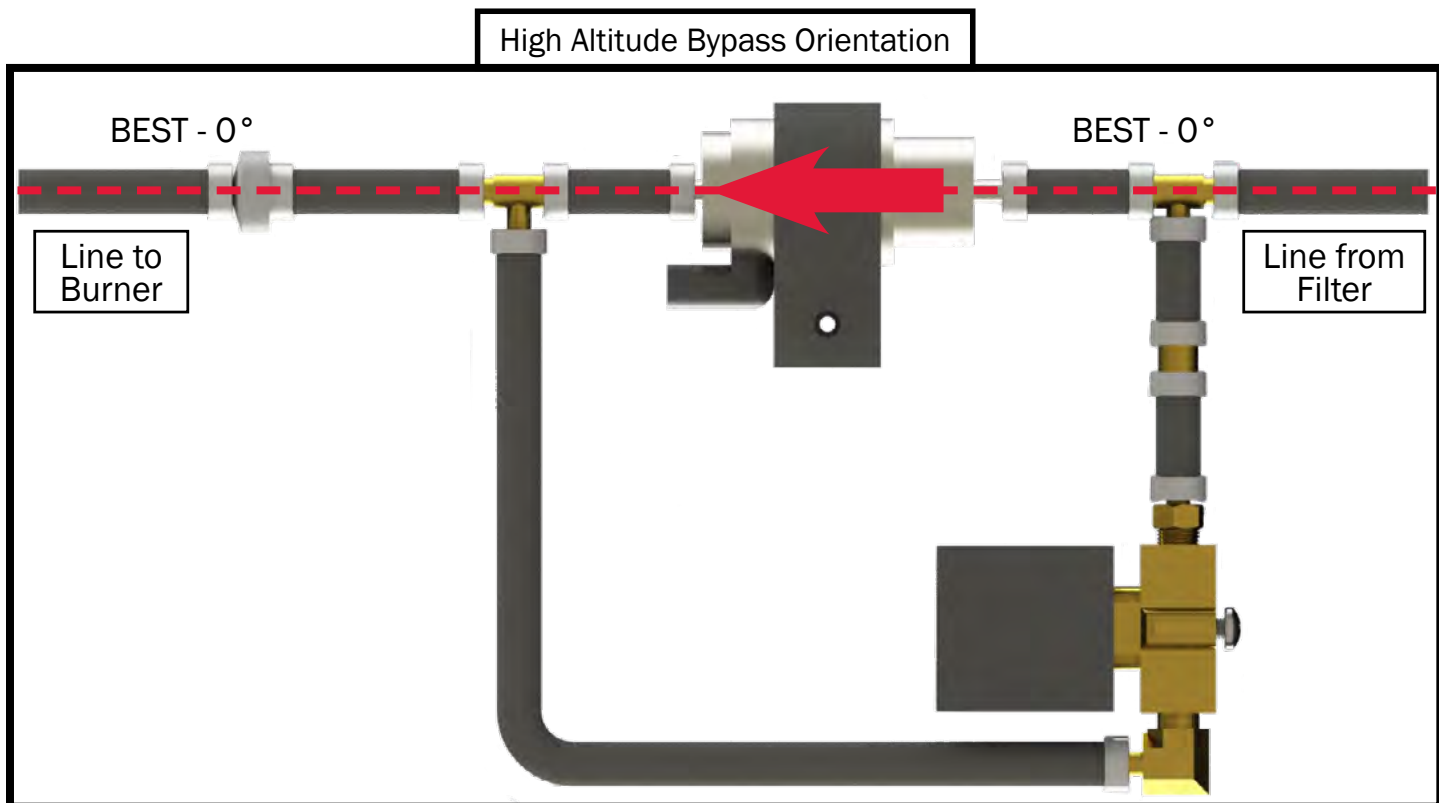

Figure 75
- The fuel line should not be descending from the fuel pump to the burner - see Figure 75.